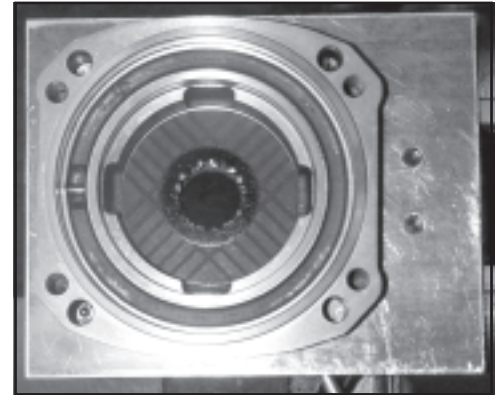

Figure A3
4. Install the separator (metal tab plates) plates and friction discs in exactly the same order they were removed. There should be a separator plate on the top and a friction disc on the bottom of the stack. Use the shaft to align the splines of the friction discs. Be careful not to contaminate the friction disc or separator plate surfaces with dirt, grease, or fluid other than what the brake was designed to use. SEE FIGURES A3 & A4